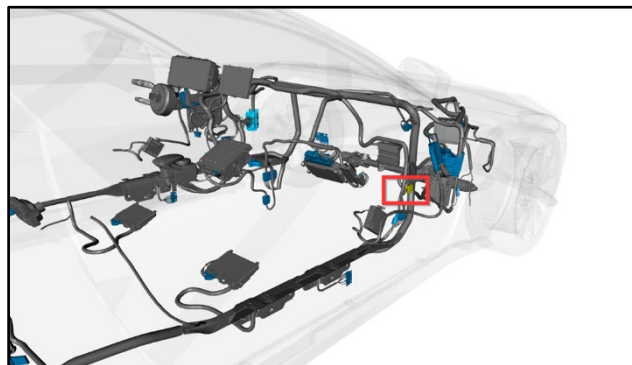

Figure 27
- 10. FlexRay CAN Breakout** – This 22-way connection is on the passenger's side (refer to Figure 27). Use the Breakout Flexray cable to bridge the 22-way connector. Connect the 3-pin plug to the Flexray 3-pin plug on the AM cable.